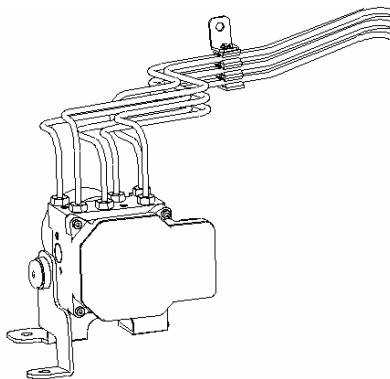

Fig. 3-9
- (1) Remove the protection film on HECU, and confirm pipelines of master pump and wheel slave cylinder before operation (master pump: MCP and MCS; wheel slave cylinder: FR, FL, RR and RL).
- (2) Make sure the brake pipe is tightened and torque is 14N·m with a special tool, torque wrench or other equipments.
- (3) No foreign material is allowed in HECU holes and brake pipes, as shown in Fig. 3-9.